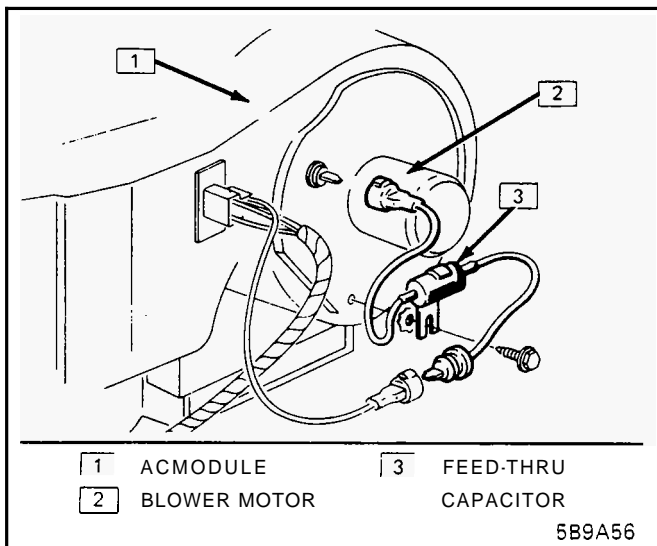

Figure 9A-52 Connecting Feed-Thru Capacitor to Blower Motor
3. If Step 2 is not effective, connect a ground braid as shown in Figure 9A-53.
4. If the noise is still present, add a 0.25 MFD coaxial capacitor in parallel with the first one as shown in Figure 9A-54.